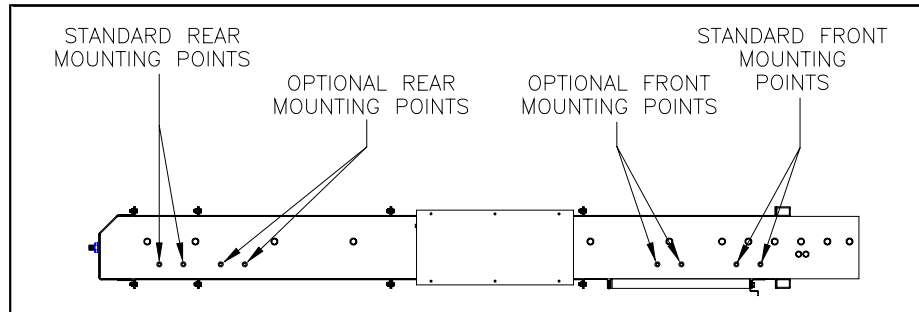

FIGURE 2-1: LIFT MOUNTING POINTS
- a. Refer to **Figure 2-1**. The mounted weight of lift is received at eight standard attachment points (four on each side of enclosure). There is a 5/16-18 threaded insert at each point.